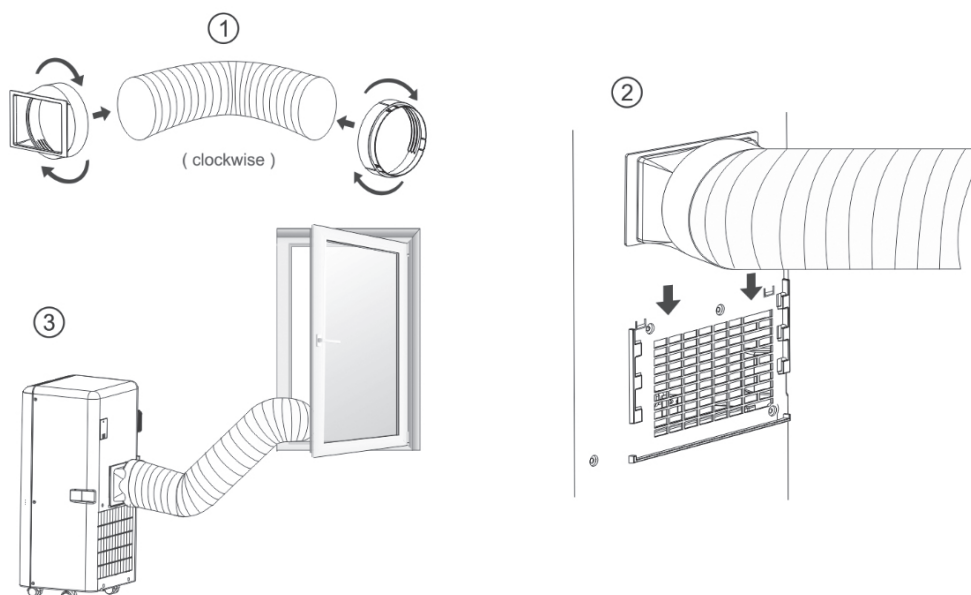

Fig. 4
2. Insert the square fixing clip into openings at back of the air conditioner (see Fig.4).